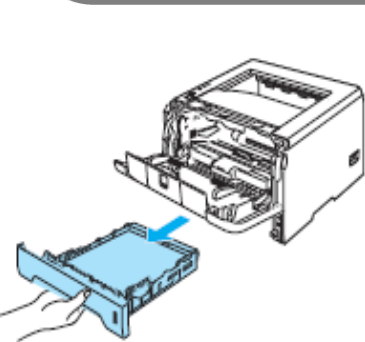

Fig 1
- Remove paper tray and check paper is sat straight and in order (Fig 1)